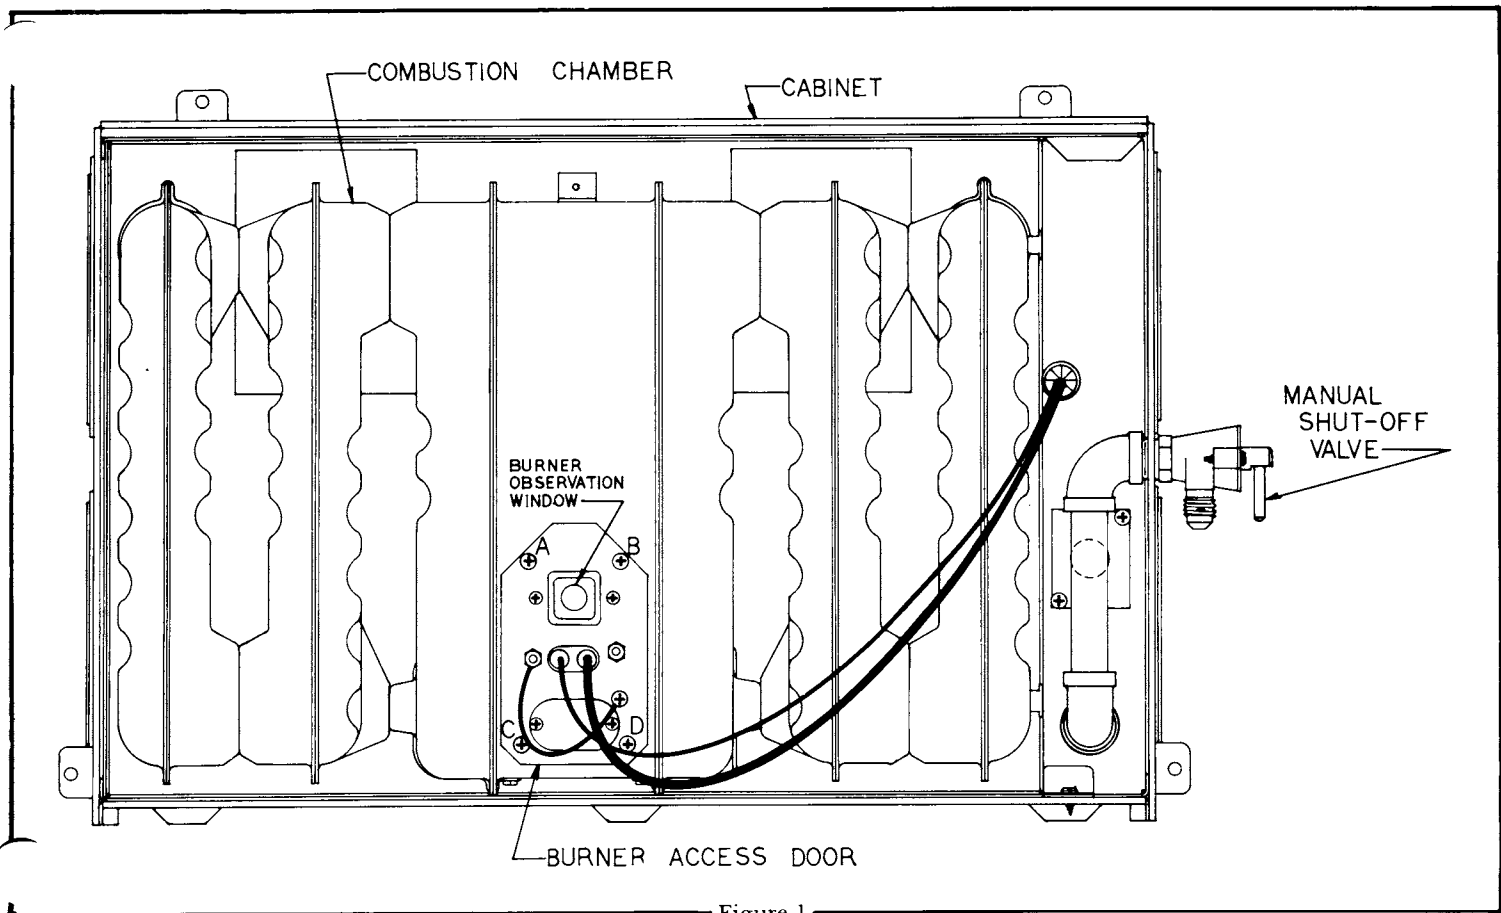

Figure 1
NOTE: To observe flame, cabinet front must be removed. Operation of burner can then be observed through the viewing window on front of chamber (see Figure 1).
2-Turn manual shut-off valve to the *off* position (see Figure 1).
1-Turn main gas valve control knob to *off* (see Figure 1).
4-Inspect main burner by removing the four (4) screws (A, B, C and D) securing the burner access door to the combustion chamber (see Figure 1). If excessive rust and corrosion are present on burner surface, the burner must be thoroughly cleaned or replaced.